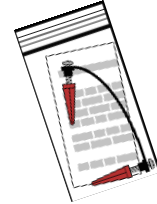

Figure 3 - Mounting Bracket
- 1x Mounting Bracket (Figure 3)
Step 1: Locate the mounting bracket (*Figure 3*) horizontally across the hole with the smaller diameter of the mounting button against the wall.